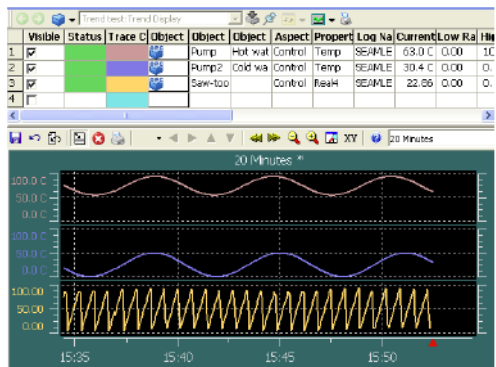

Figure 42. Trend Display Top View
- The Top View, that is, the Main View with the Trend Table on top (Figure 42).